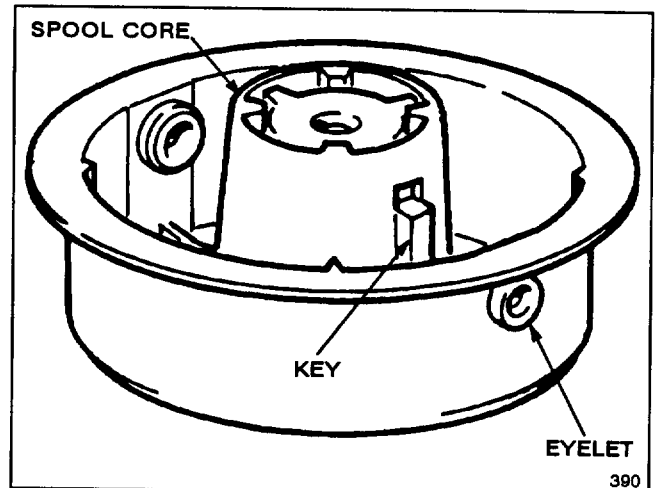
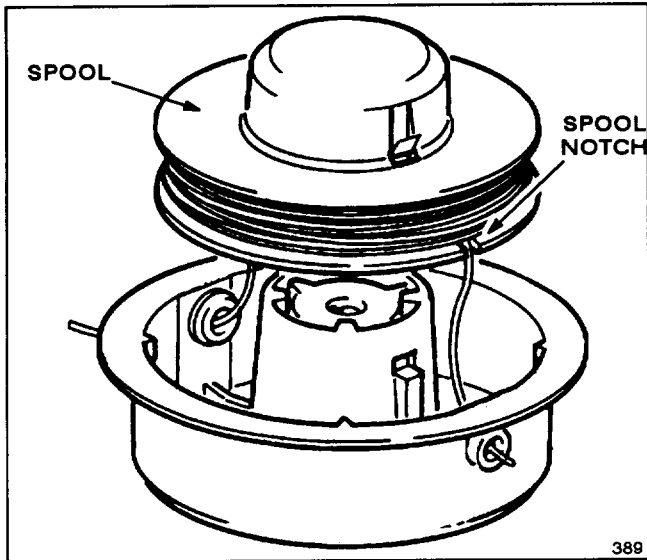

Figure 11
Figure 12
- D. The spool and core are keyed and **must** be properly aligned when putting spool back on. Push downward on spool core and rotate it until "key" feature on the core is aligned with the eyelets on the drum (Fig. 11). With lines still retained in spool notches, thread ends of lines through eyelets (Fig. 12). Place spool onto keyed spool core; the spool notches must be aligned with eyelets and spool core key (Fig. 12). Push spool inward until you hear it click. Pull lines outward while pushing spool inward to free lines from notches. Unwind no more than six inches of line from spool. To extend lines, pull lines out while pushing spool inward. To retract lines, rotate spool clockwise while pushing spool inward.